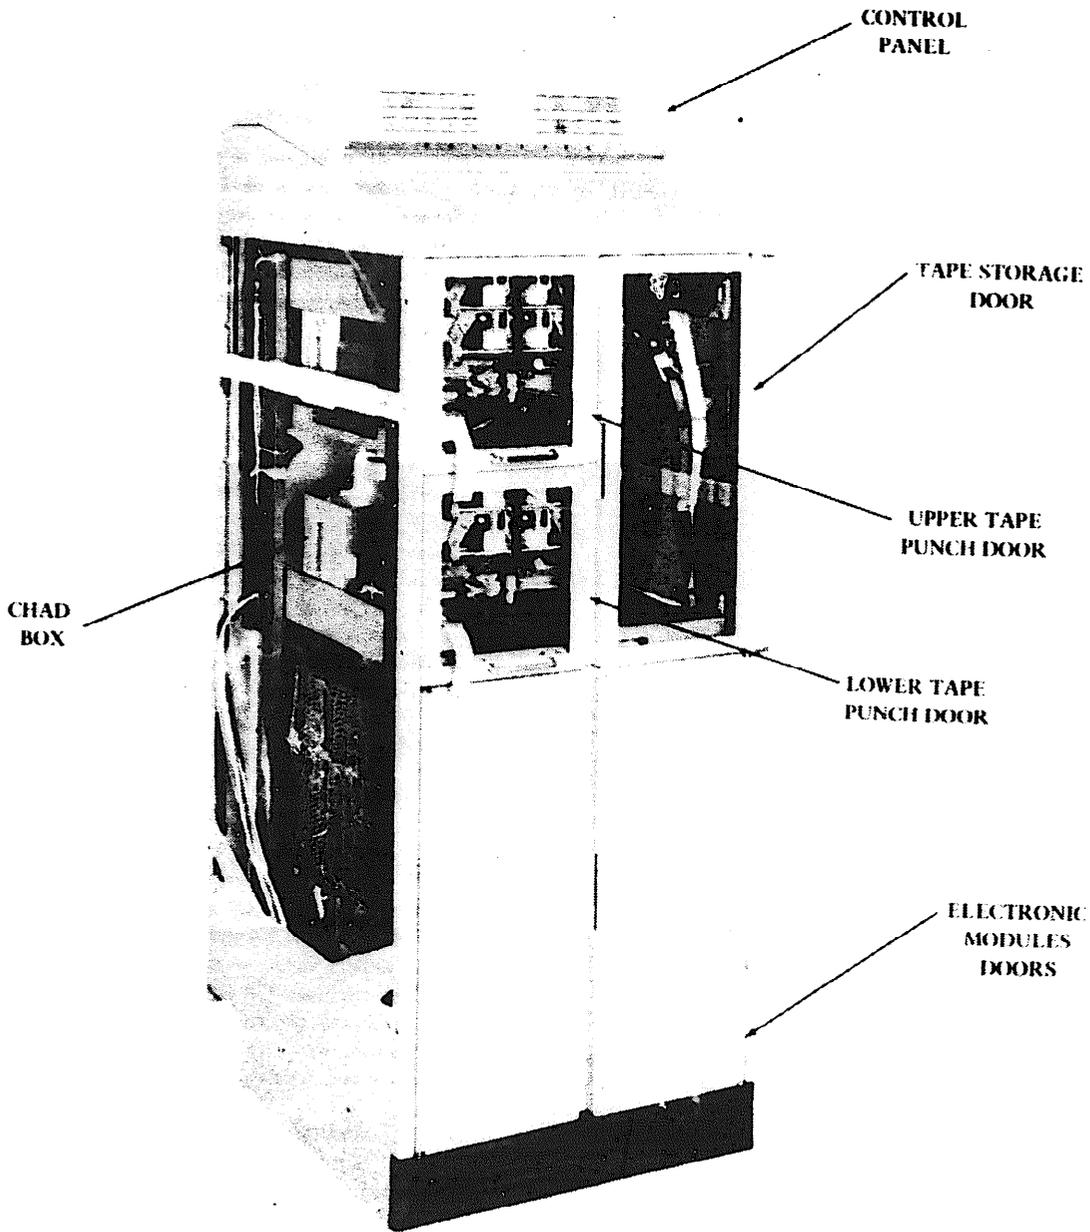

Figure 1 High Speed Tape Receiver Cabinet
1.03 All references to right or left, front or rear, up or down, are made from a normal operating position in front of the cabinet. Clearance for service and maintenance is necessary in front, rear, and top of cabinet. Tape handling equipment, tape punch, chad box, tape supply, electronic logic, and power supplies are accessible from the front of the cabinet (Figure 1).